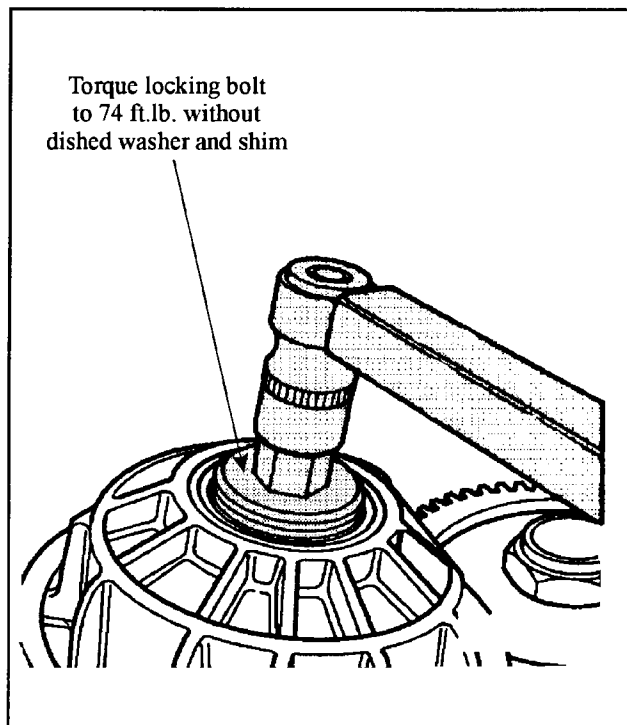

Figure 117
2. Using a torque wrench, tighten the locking bolt for the output gear to 74 ft.lb. Lock the parking gear if necessary (See Figure 117).